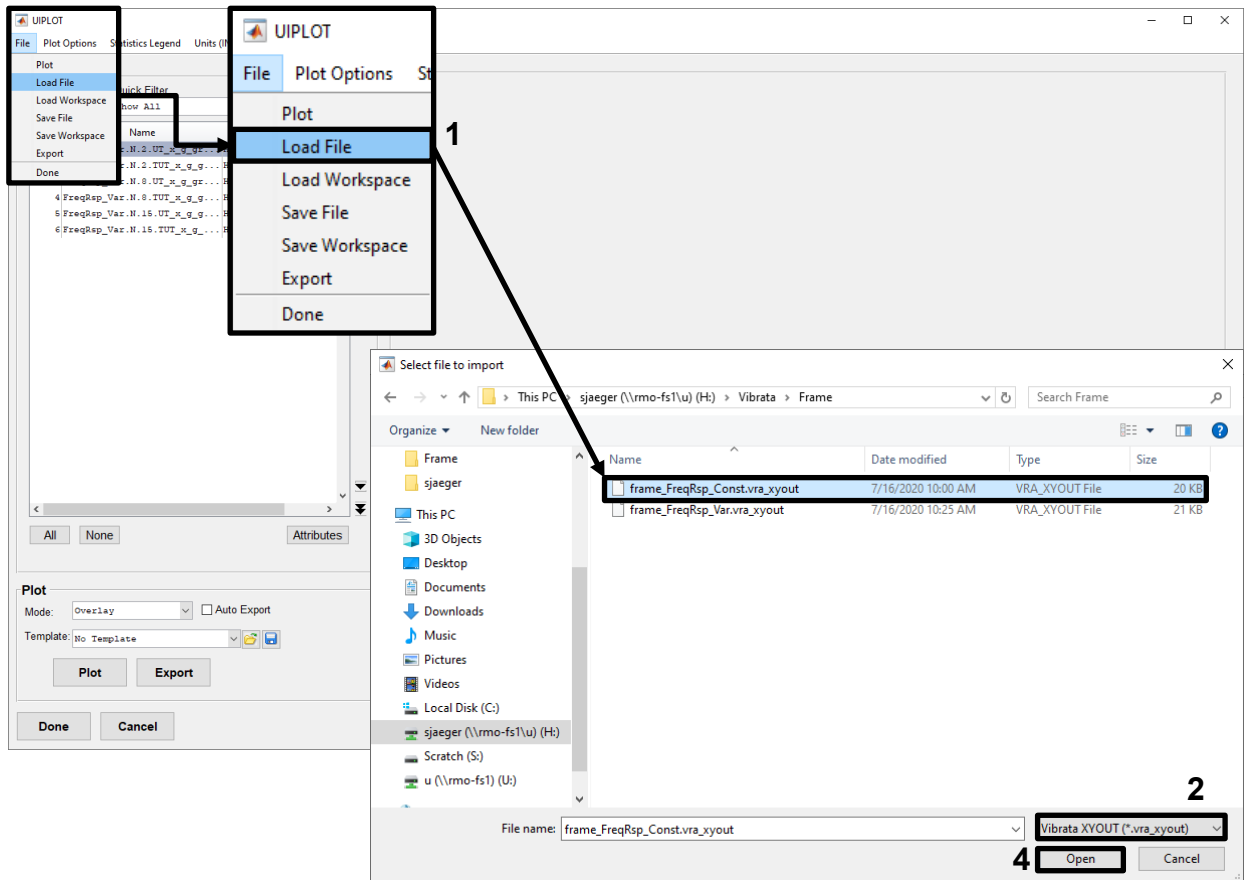

Figure 4-36. Load results from the constant-amplitude event into the output plotter.
- b. In the *UIPlot* dialog, load the results from the first frame event (Figure 4-36).